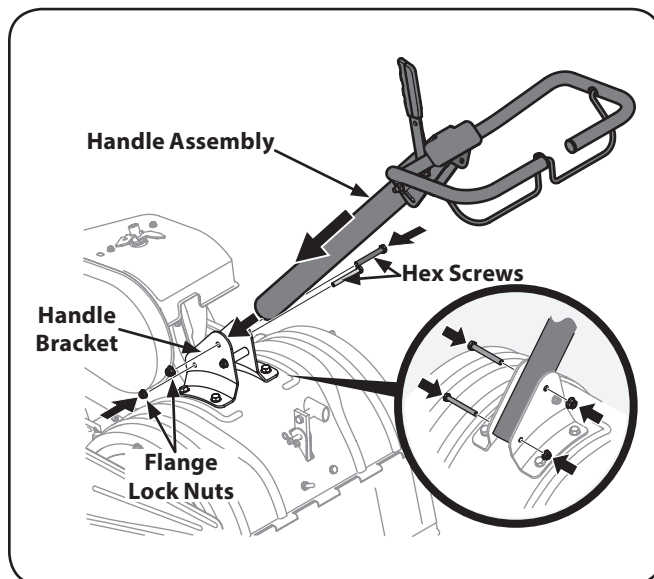

Figure 3-3
2. Place the handle assembly in position between the handle bracket. See Figure 3-3.